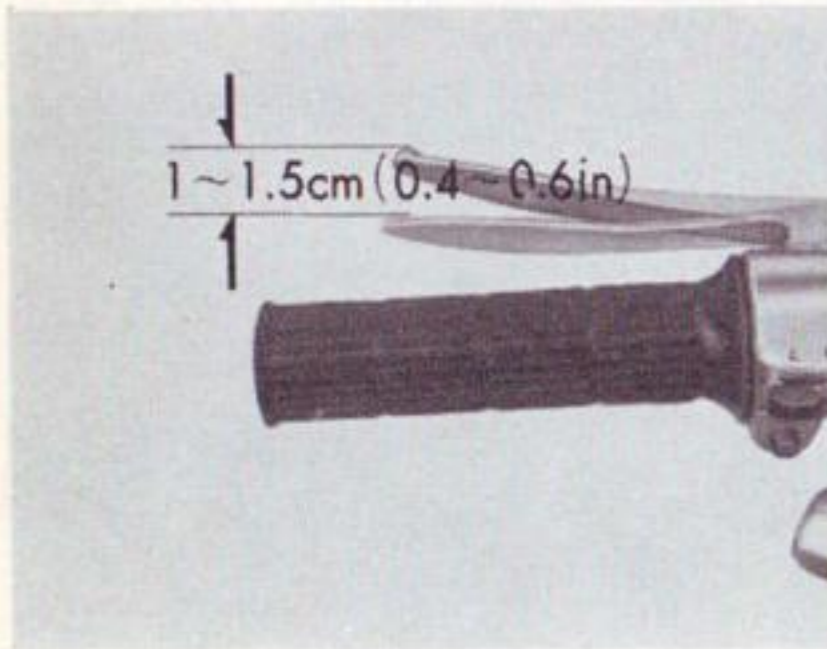

Fig. 28
1. There should be 1~1.5 cm (0.4~0.6 in) of play at end of the clutch lever before the clutch begins to engage. (Fig. 28)